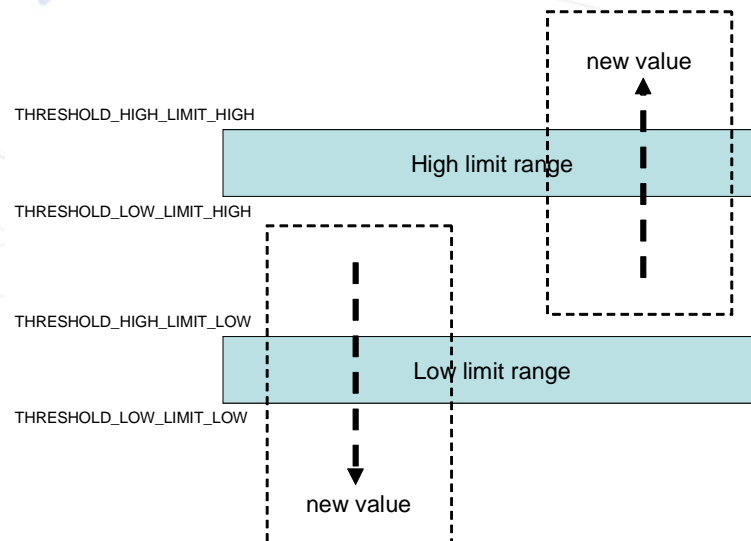

Figure 5-3: Threshold's Conditions for Auto Notification by Threshold Mode
2. Threshold - notification upon Voltage (see Figure 5-3):